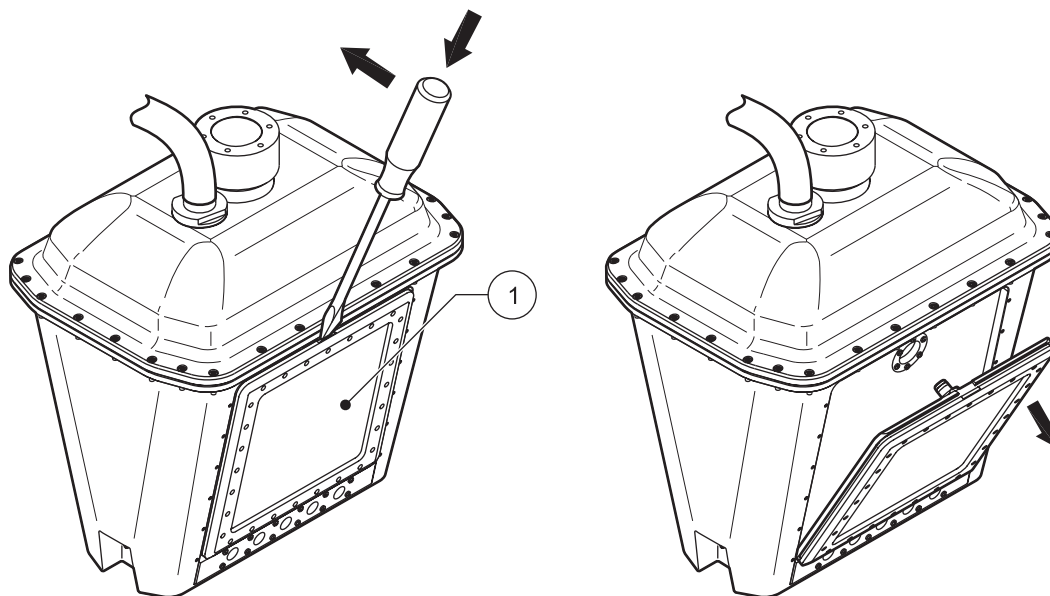

Figure 8 Removing the Filters
4. Carefully remove the filters from the holder using a screwdriver (Figure 8 ).